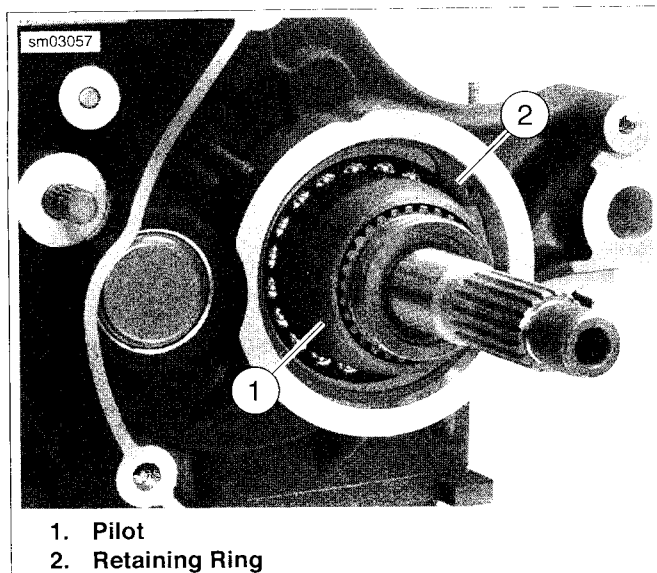

Figure 6-44. Install Pilot
4. See Figure 6-44. Install **new** retaining ring (2).
1. See Figure 6-44. From outside of crankcase, install PILOT (Part No. HD-47856-2) over end of main drive gear bearing inner race.